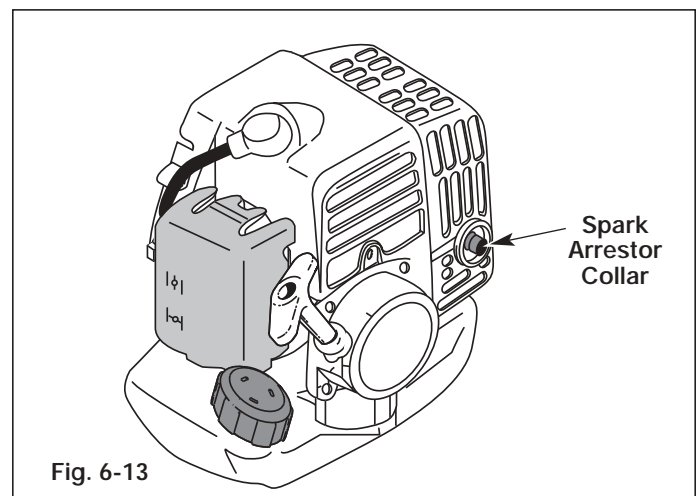

Fig. 6-13
1. Turn the powerhead so the back of the engine is facing forward. In this position, the starter rope is to the left (Fig. 6-13).